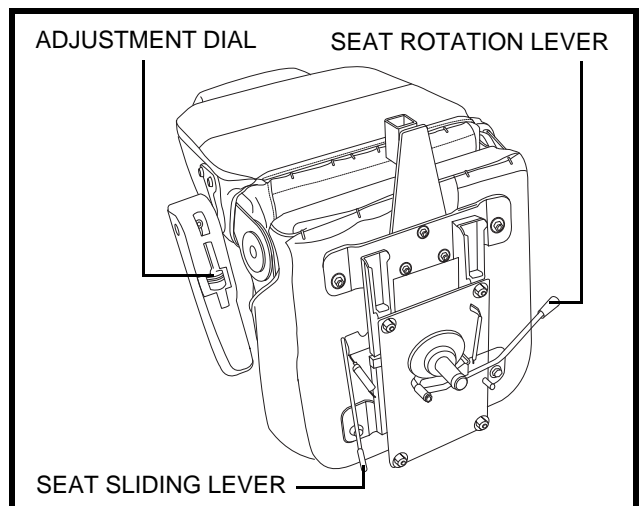

Figure 19. CRS Junior Seat Position Adjustments
1. Move the seat sliding lever located at the lower left side of the seat outward. **See figure 19.**
Armrest angle of your scooter can be adjusted upwards or downwards by turning the adjustment knob. **See figure 19.**